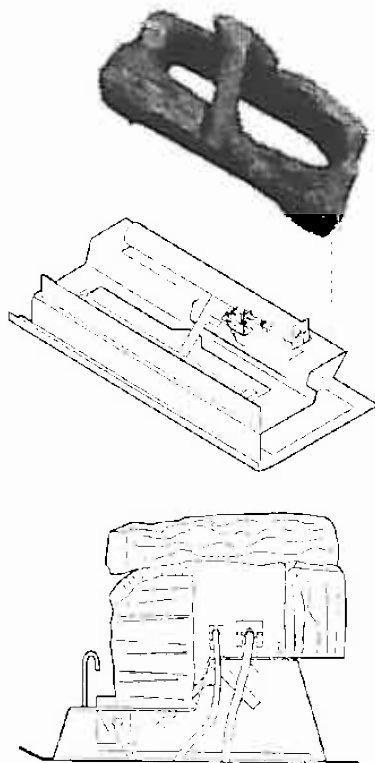

Figure 15
Step 13. The heater includes a unitized set of five (5) ceramic fiber logs. The heater and logs are assembled as shown in Figure 15. Handle these logs with great care. The logs can be easily damaged, but when handled properly they can provide years of performance and enjoyment.